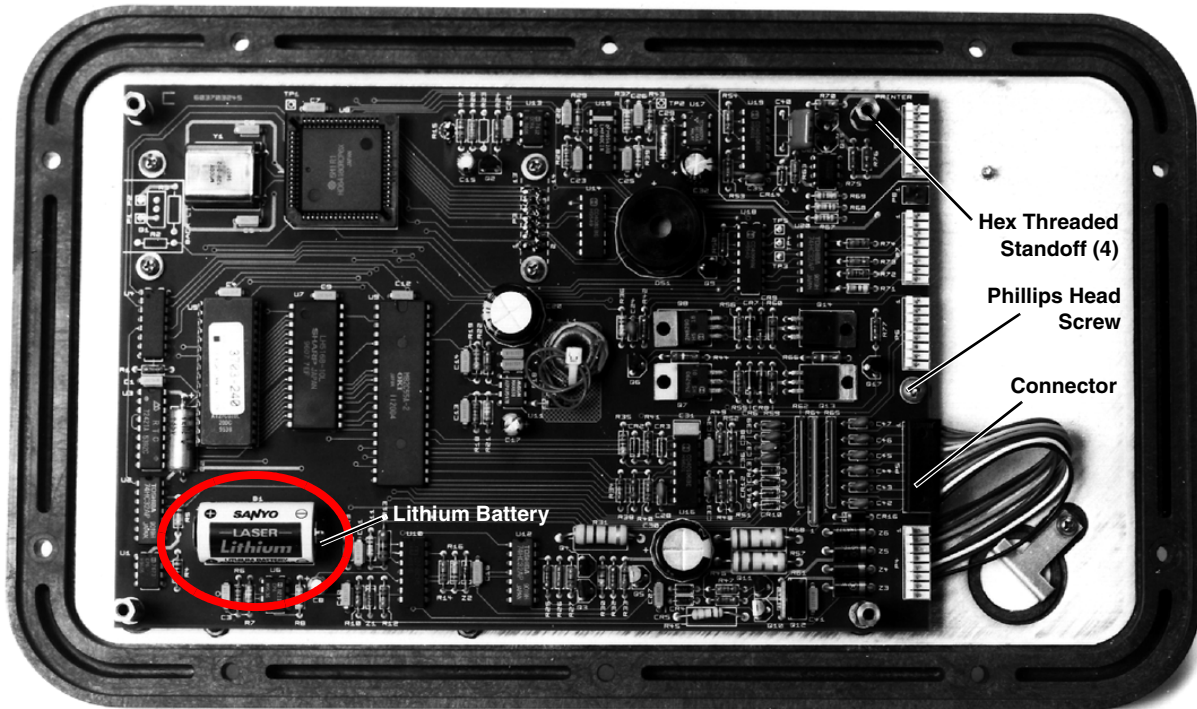

Figure 6-3 Main Circuit Board
To remove this shield, unscrew the screws (4) located in each corner of the shield, and the stop nut that holds the short grounding strap. Lifting the shield off will reveal the main circuit board shown in Figure 6-3, on page 6-4.
6. To remove the circuit board assembly from the control box cover, unscrew the four hex threaded stand-offs and the phillips head screw, indicated in Figure 6-3. The circuit board may now be pulled away from the control box cover.
7. To completely disconnect the circuit board assembly from the cover, disconnect the connector shown in Figure 6-3.